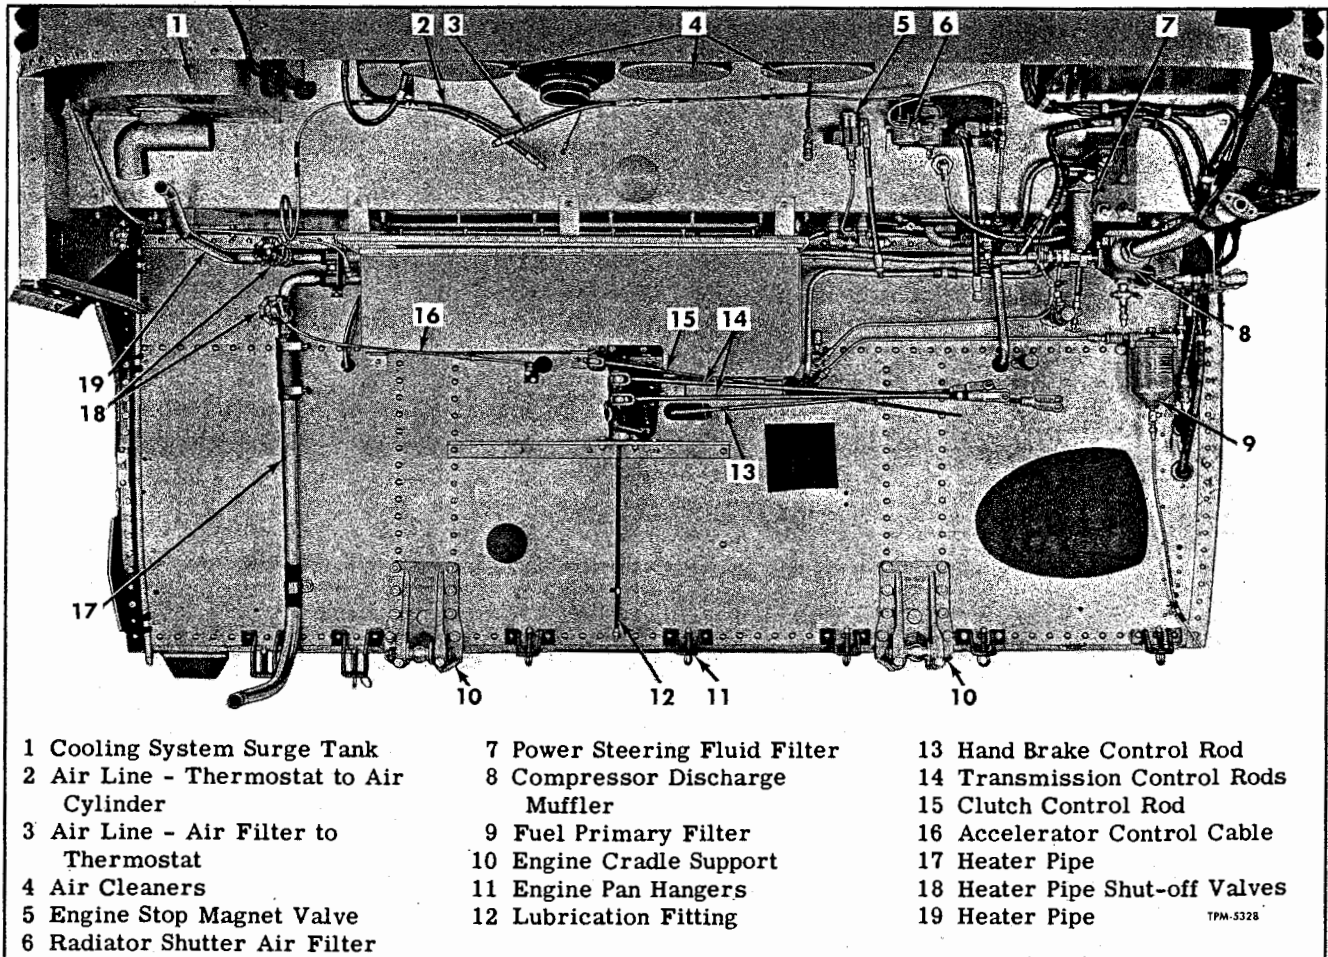

Figure 7—Cradle Support Brackets and Controls at Bulkhead
Power plant including engine, clutch, and transmission is mounted on engine cradle and the complete assembly is installed transversely at rear of vehicle (fig. 1). Brackets (fig. 7), at lower edge of engine compartment bulkhead support engine cradle at forward side, while cradle is supported at rear by two tube and plate assemblies (fig. 1) suspended from support beam at rear of coach. Power plant including radiator and exhaust system is removable as an assembly.
Engine Cradle and Brackets at Bulkhead (Fig. 7)
(Refer to Figure 7)
2. Lower the power plant into position with brackets at front side of cradle engaging brackets at lower edge of engine compartment bulkhead (fig. 7).
4. With weight of power plant resting on brackets (fig. 7), use lead hammer to strike bolt and thereby positively locate ball in spherical seat in bracket.
5. Install caps at support brackets (fig. 7) at front of cradle, and tighten cap bolts firmly. Use lock wires to secure bolts. At left support bracket, tighten bracket clamp bolts and tighten nut on bolt (10).